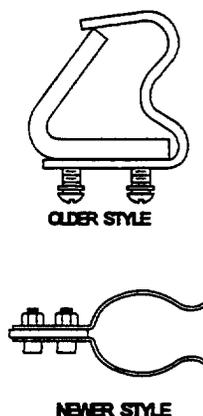

Figure 3-10. Spring Clip Assemblies
- b. Spring clip assemblies come in two different styles. See figure 3-10. The center-to-center distance between screw holes on newer doors is 1/2-inch. On older doors, the distance between screw holes is 11/16-inch. If the holes on the new spring clip do not match the holes on the door, it will be necessary to drill a new hole in the mounting tab welded to the door. Mark the new hole location with a small center punch. Drill the new hole with a no. 21 drill, and tap with a 10-32UNF tap. Screw on the new spring clip.